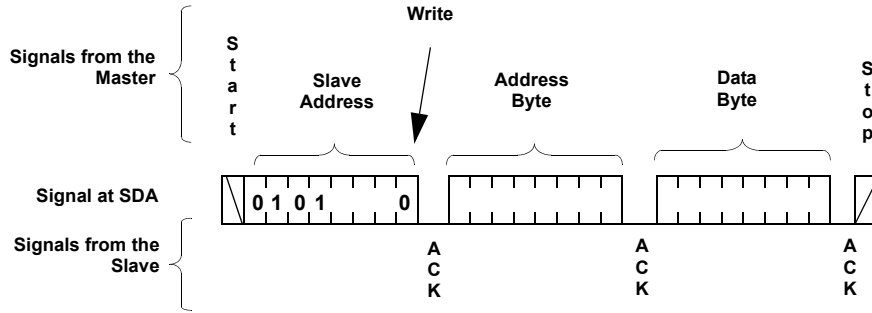
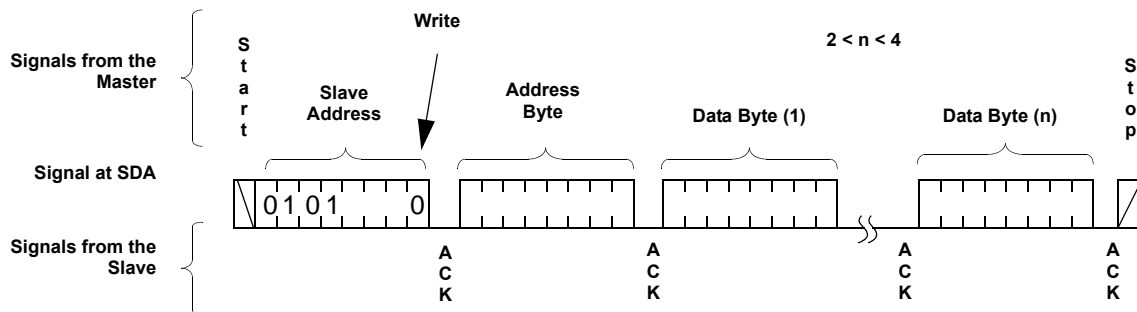

FIGURE 7. BYTE WRITE SEQUENCE
FIGURE 9. PAGE WRITE OPERATION
- Access the desired DR or WCR using a new write or read command** (see Figure 7 for write and Figure 9 for read.)
For any Byte Write operation, the X9455 requires the Slave Address byte, an Address Byte, and a Data Byte (See Figure 7). After each of them, the X9455 responds with an ACK. The master then terminates the transfer by generating a STOP condition. At this time, if the write operation is to a volatile register (WCR, or SR), the X9455 is ready for the next read or write operation. If the write operation is to a nonvolatile register (DR), and the  $\overline{WP}$  pin is high, the X9455 begins the internal write cycle to the nonvolatile memory. During the internal nonvolatile write cycle, the X9455 does not respond to any requests from the master. The SDA output is at high impedance.
As stated previously, the memory is organized as a single Status Register (SR), and four pages of four registers each. Each page contains one Data Register for each wiper. Normally a page write operation will be used to efficiently update all four Data Registers and WCR in a single Write command. Note the special sequence for writing to a page: First wiper 0A, then 1B, then 1A, then 0B as shown in Figure 9.
transmit up to 4 bytes (See Figure 9). After the receipt of each byte, the X9455 responds with an ACK, and the internal WCR address is incremented by one. The page address remains constant. When the address reaches the end of the page, it “rolls over” and goes back to the first byte of the same page.